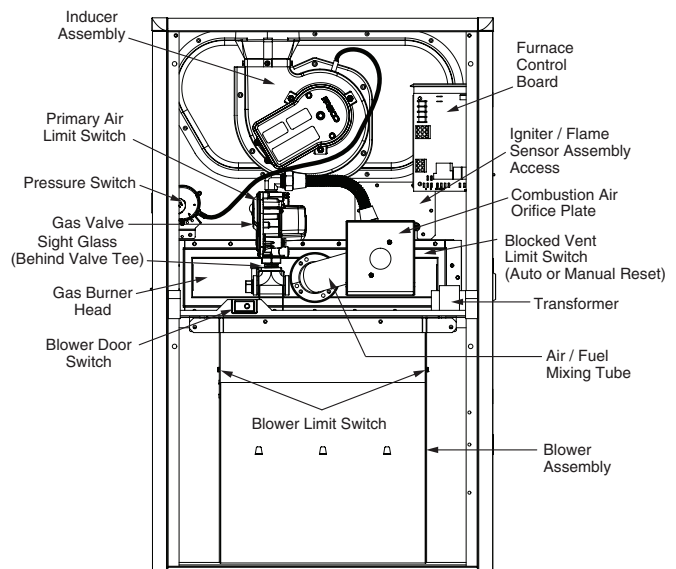

Figure 1. Furnace Components
The furnace components shown in Figure 1 will help to identify and locate various parts of the furnace. The component you need to familiarize yourself with is the gas valve. You will use this to turn the furnace on and off. **There are no user serviceable parts. All repairs must be performed by a licensed HVAC technician.**
7. Set the gas valve switch or knob to the OFF position. See Figure 1 for gas valve switch or knob location.
**NOTE:** Your furnace may be equipped with one of three types of gas valves. Remove the door panel from the front of the furnace and determine which valve type matches your installation in Figure 1. Move the switch to the OFF Position.